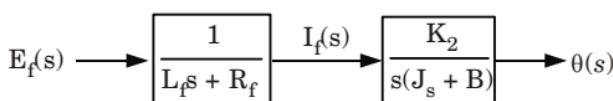

Fig. 4.
8. Block diagram is shown in Fig. 4.